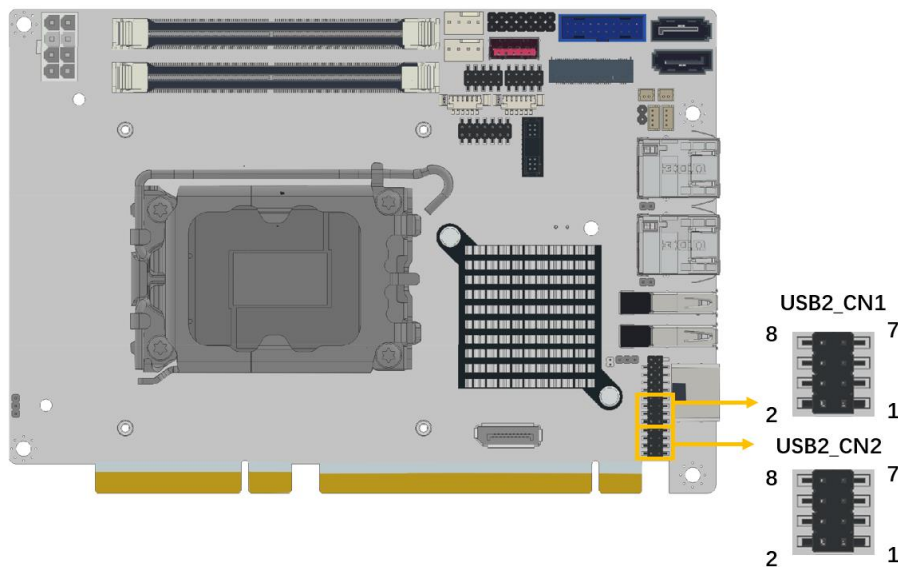

Figure 3-26: Internal USB 2.0 Connector Locations
- CN Location:** See Figure 3-26